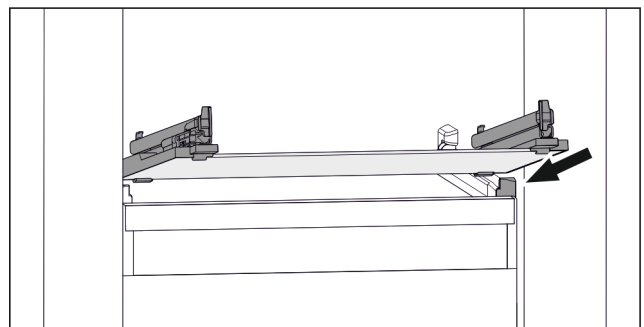

Fig. 163 Example illustration of glass shelf
- Position glass shelf at an angle behind the stoppers. (see Fig. 163)